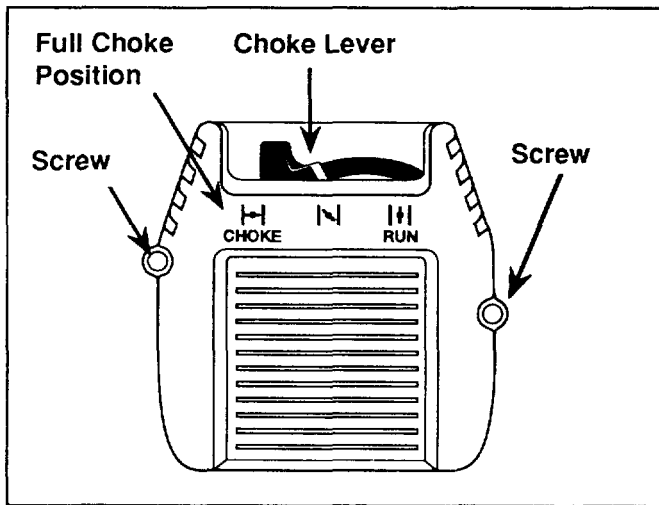
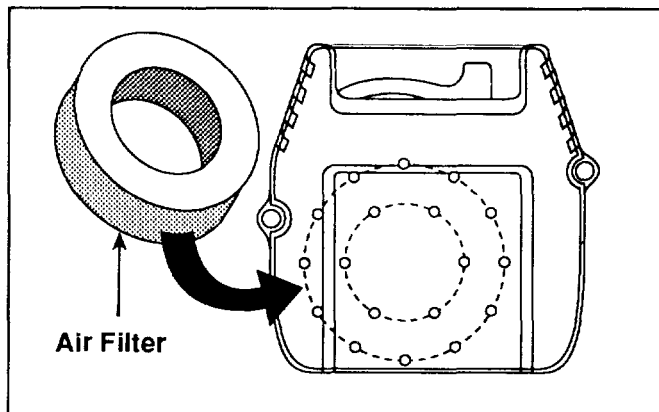

Fig. 20
Fig. 21
2. Remove the screws on each side of the carburetor/air filter cover assembly. Remove the air filter cover (Fig. 20).
3. Remove the air filter (Fig. 21).
7. Reinstall the filter (Fig. 21), air filter cover and screws (Fig. 20).